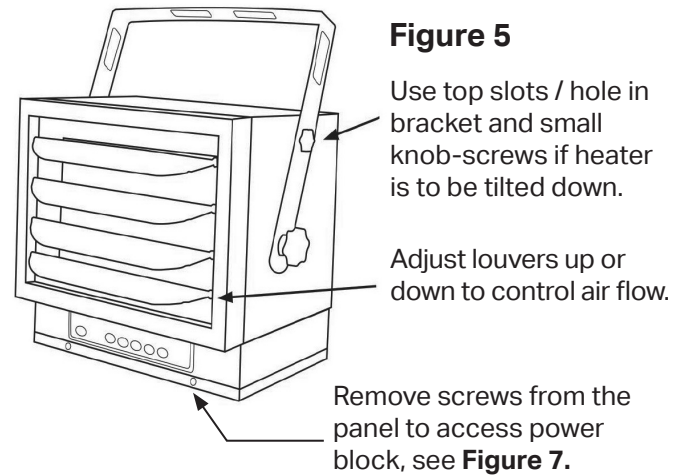

Figure 5
3. Aim the heater horizontally or tilted by aligning the upper bracket holes with the top threaded holes on the heater and secure with the small knob-screws and tighten all. See **Figure 5**.
1. **Tilt the unit**—Loosen the top Small Knob-Screws and thread into provided holes in heater until tight. See **Figure 5**.
2. **Adjust the louvers** in front of the heater as desired. See **Figure 5**.